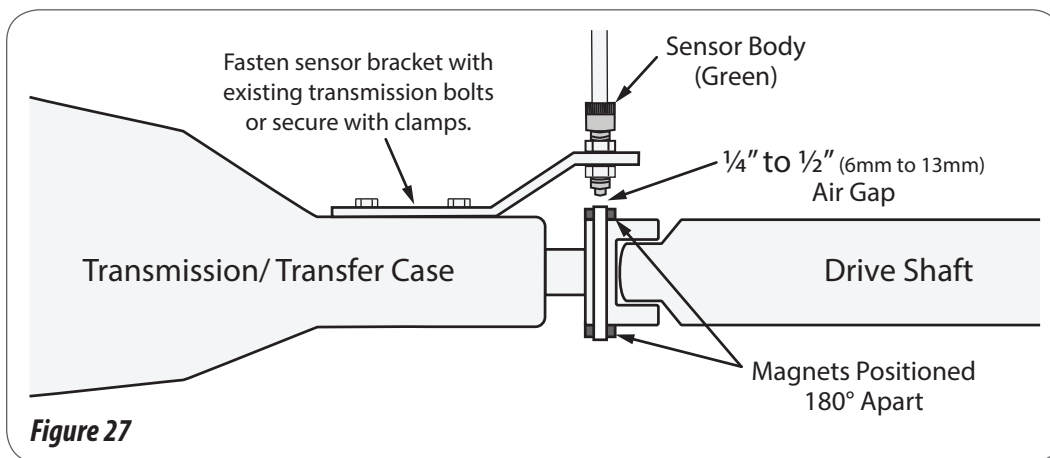

Figure 27
Determine the best location for the magnets on drive shaft according to which is the most practical spot to attach sensor mounting bracket. *See figure 27.* This position should be no more than 12" (.30 meters) behind the front U-joint. For best results, mount "L" bracket to transmission and mount magnets on drive shaft as close to transmission as possible. This will ensure proper alignment if drive train shifts under heavy loading.
- Attach sensor bracket to vehicle transmission. *See Figure 27 below.* Use either the short or long end of the bracket as a base.